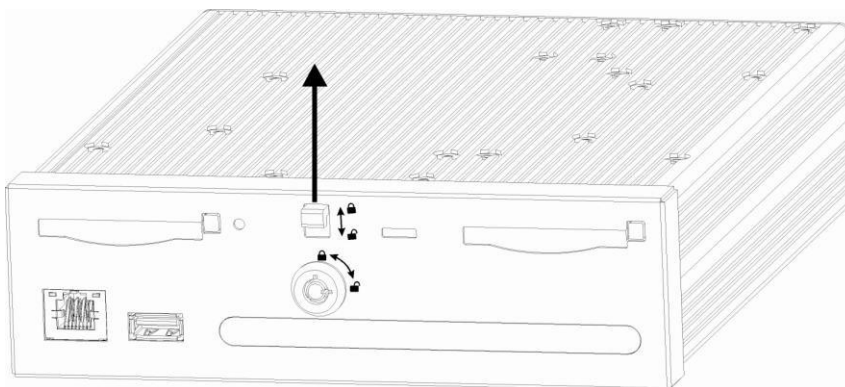

Figure 3-7
4) After you removed the CF card, please push the plastic handspike following the arrowhead in Figure 3-7. Turn the key counter clock wise to lock the CF card.